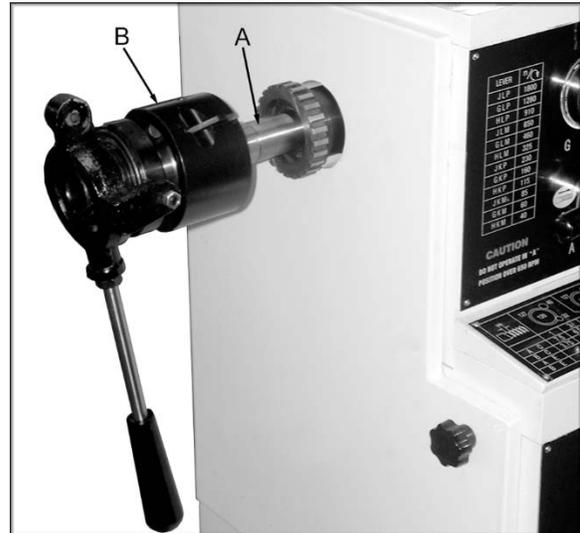

Figure 3
8. Thread drawbar (A, Figure 3) into collet closer assembly (B, Figure 3) until it is flush with the assembly.
12. Screw collet closer into collet by releasing collet closer assembly lock and turning collet closer outer flange (B, Figure 3) clockwise. Note: It is necessary to push in collet while turning closer body to engage draw bar with collet. Continue turning until collet taper is seated, but not tensioned in the taper.
20. Place a cutter or material into collet so you can adjust the outward flange (B, Figure 3). Turn outward flange until you can move the lever and it "pops" into place, locking the cutter or material into the collet.